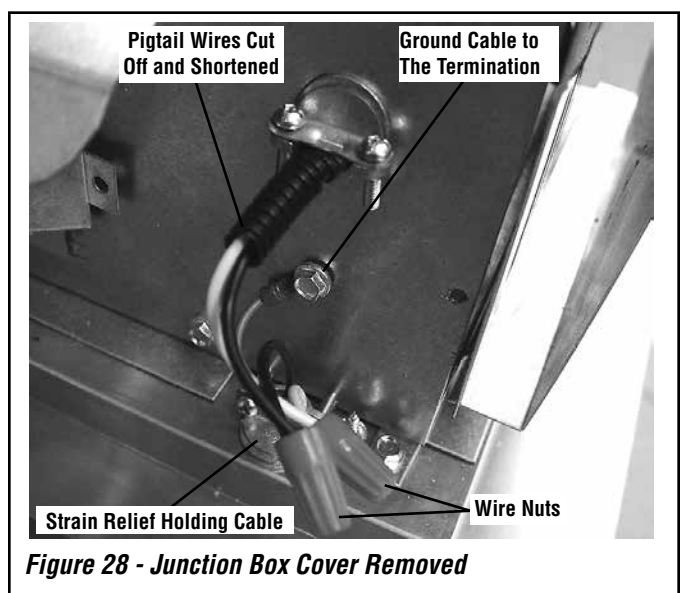

Figure 28 - Junction Box Cover Removed
- Refer to **Figure 28** and install the electrical hardware on the fireplace end of the cable. Male terminals (#10) on the Black and White wires, and ring terminals (#9) on the ground. The termination end of the cable will be connected to the termination with wire nuts (not provided).
- Refer to **Figure 28** to connect the three wires of the cable to the termination. Ensure the ground ring terminal is grounded beneath a structural screw as shown. Attach the junction box cover to the termination with the screw previously removed.